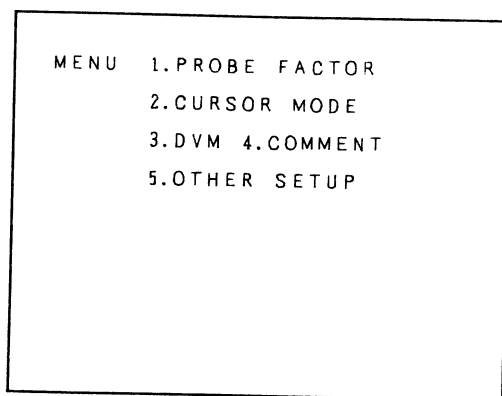

Fig. 8-6
- 1) Set the CURSOR and DLY/COUNTER key to DLY/COUNTER, and press the MENU key. The menu is displayed as shown in Fig. 8-6.